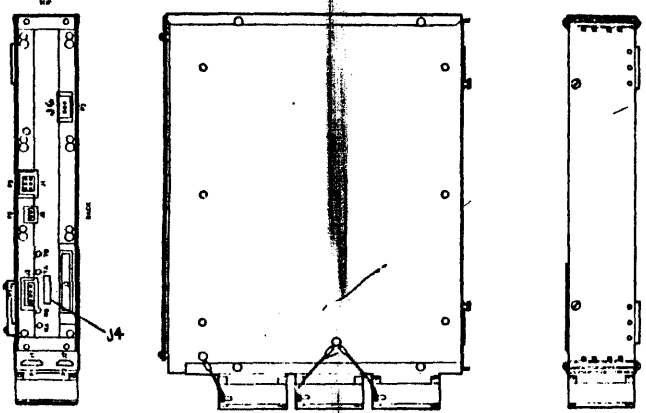
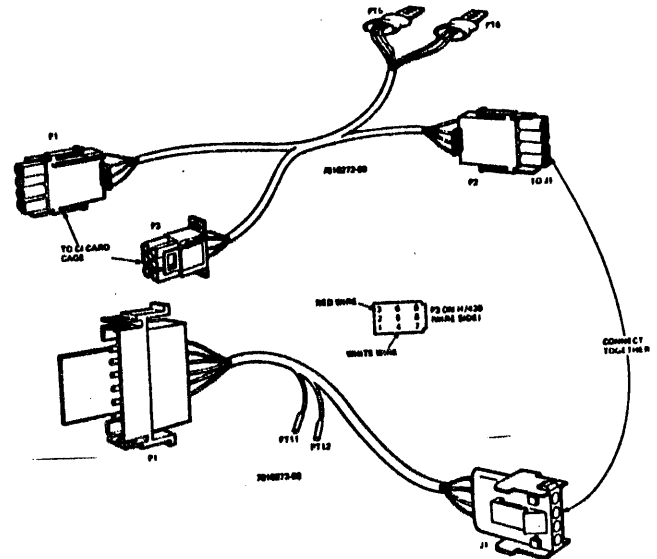
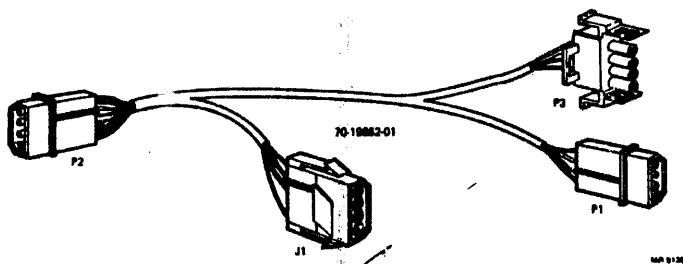
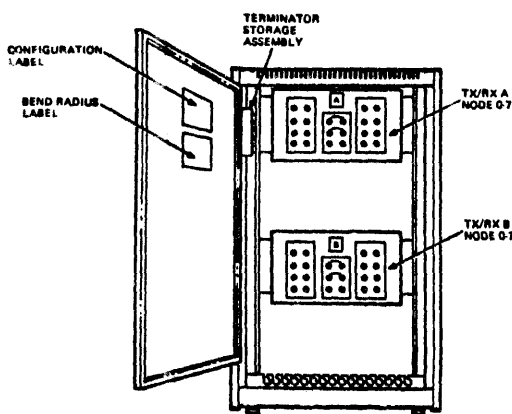

Figure 3-5. CI Card Cage, Location Drawing
Figure 3-6. DC Power Cable
Figure 3-7. Vane Switch Cable
Figure 3-11. Star Coupler
Install the CI Card cage (see figure 3-5) as follows:
3. On the plexiglass cover at the rear of the CI card cage, verify and if necessary, label the coaxial connectors TRANS B, TRANS A, RECV B, and RECV A, as shown in figure 3-5.
5. Connect the internal CI cables to the coaxial connectors on the rear of the CI card cage, as shown in figure 3-5. The connectors will engage a detent when they are seated properly.
1. Install the free ends of the internal 3-foot CI cables on CI bulkhead. Remove the nut from the free end of the coaxial connector, route the connector through the hole in the CI bulkhead from the side without lettering, and secure the cable by tightening the nut on the lettered side. Ensure that TRANS A, TRANS B, RECV A, AND RECV B cables from the CI card cage are connected to the corresponding holes in the CI bulkhead, as shown in figure 3-5.
1. Attach one half of DC power cable, DEC part number 7019272-00, (figure 3-6) to CI card cage J1 and J2 (figure 3-5). Locate the black and blue wires labelled PT5 and PT6 on this cable. Connect the black wire to -5.2 ground, and the blue wire to -5.2 F in the CPU bay, as shown in figure 3-2.
2. Locate the other half of the DC power cable, DEC part number 70-19273-00, shown in figure 3-6 and join the end labelled J1 to P2 on the other half of the cable. Tie wrap the new harness to existing KL CPU power harness and continue across into and under the I/O card cage as shown in figure 3-1. Install spiral wrap provided in kit around this cable at the point where it contacts the side of the I/O card cage frame member nearest the H7420's. Refer to figure 3-1.
3. At the other end of the harness, locate the red and white wires labelled PT11 and PT12. Disconnect P3 from H7420 number 2, then connect PT11 and PT12 to pins 3 and 4 of P3 on the H7420 power supply as shown in figure 3-6. Reconnect P3 to the H7420.
5. Locate vane switch cable, figure 3-7, DEC part number 70-19862-01 and connect the P1 end to J1 on the bottom of the CI card cage, as shown in figure 3-5. Connect P3 to J6 on the CI card cage, as shown in figure 3-5.
15. Route the external CI cables along the bottom of the CPU and I/O cabinets, and out the bottom of the I/O cabinet as shown in figure 3-5. Mark the cables TRANS A, TRANS B, RECVA, and RECVB, at both ends of the cables. Connect the cables to the corresponding connectors on the CI bulkhead and Star Coupler (see figures 3-11 and 3-12). The maximum length of these cables is 45 meters.